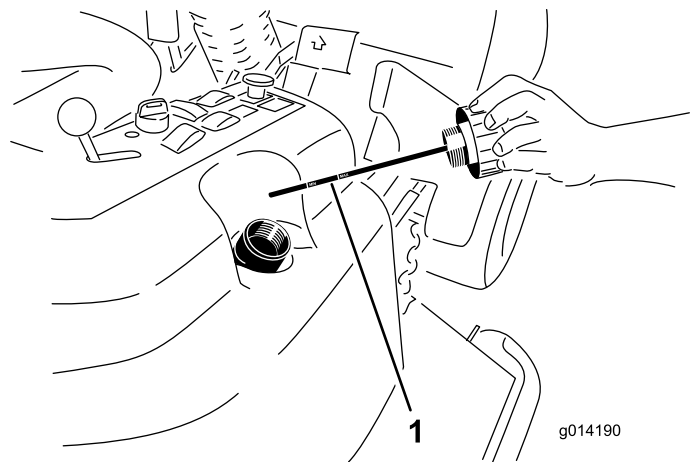

Figure 68
2. Remove the hydraulic-fill cap (Figure 68) from the filler neck.
3. Remove the dipstick and wipe it with a clean rag (Figure 68).
4. Screw the dipstick all the way into the filler neck; then remove it, and check the level of the fluid (Figure 68).